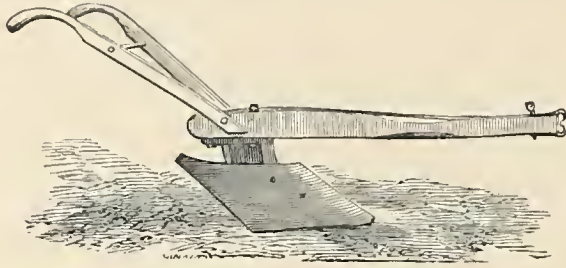

Fig. 370. — Cotton-Scraper.
*The Cotton-Scraper*, represented by *Fig. 370*, is an implement the importance of which every cotton-planter understands and appreciates. It is made either of wrought or cast iron.